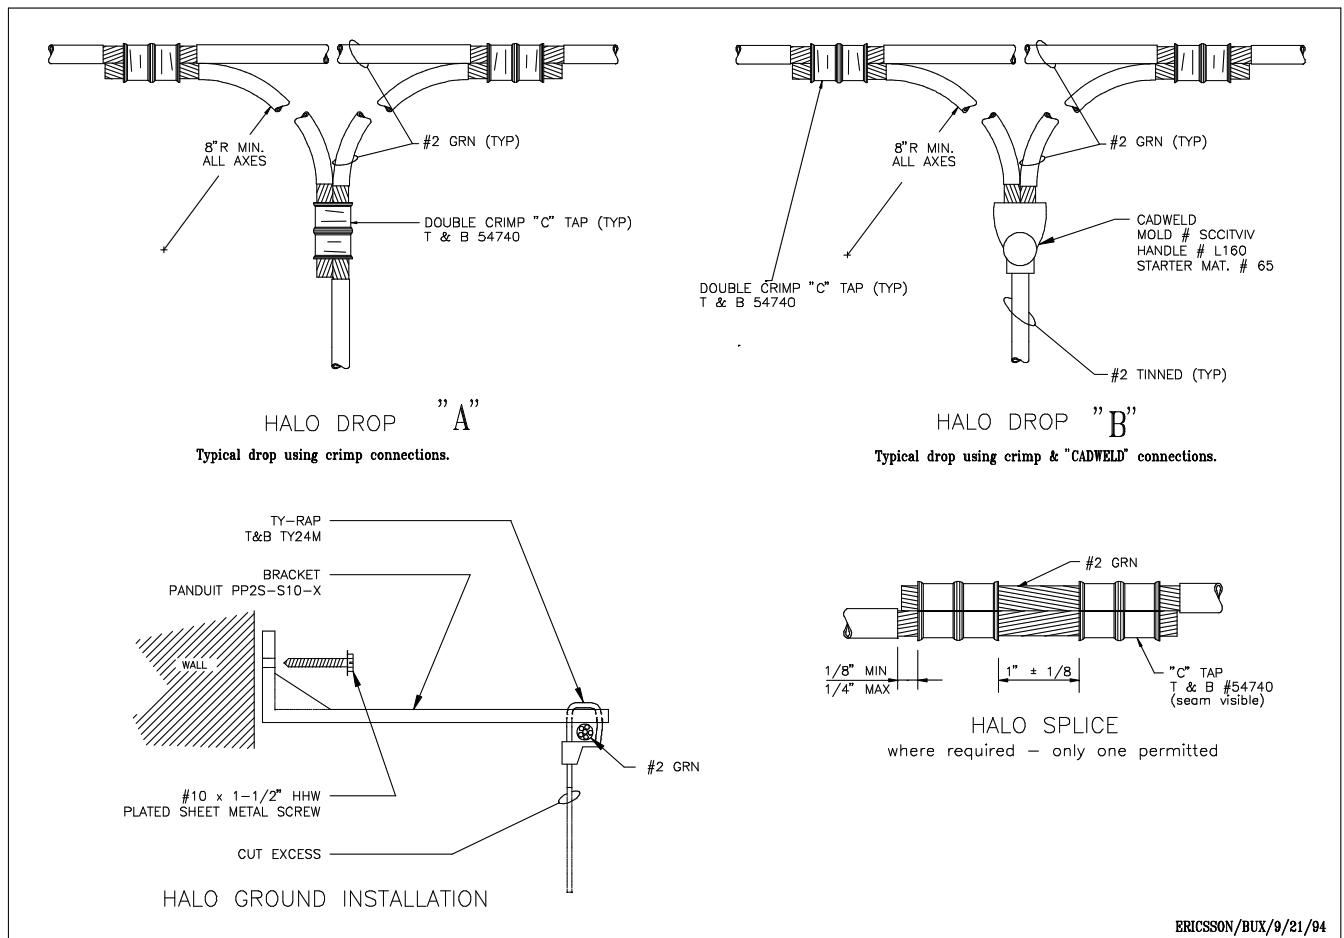

FIGURE A2-Internal "HALO" connections
This Halo is made of number 2 AWG stranded copper wire attached to standoffs (see appendix A, figure A2) at approximately eight (8) feet above the equipment room floor.
Where the room or communications shelter has less than 100 feet of perimeter, a minimum of four (4) ground risers are used. In any case, where possible, a ground riser is used at each corner of the perimeter (see appendix A, figures A1 & A2) . In installations where the perimeter of the equipment room exceeds 100 feet, a ground riser will be attached at every twenty (20) feet of perimeter (see appendix A, figure A2). These ground risers are made of number 2 AWG *SOLID* copper which exit the room, or building via **polyvinyl conduits** (see PVC exit method in appendix A, figure A1).